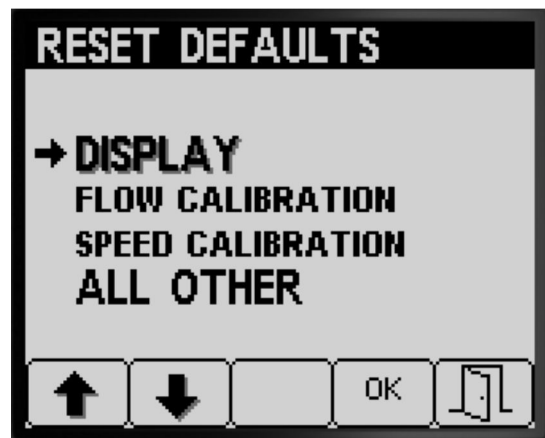

Figure 35
4. Press button 4 to reset the settings for the selected option (Figure 35).
5. Repeat steps 3 and 4 for other options that you want to reset (Figure 35).
6. Press button 5 to save your settings and exit the RESET DEFAULTS screen, and return to the SETTINGS screen (Figure 35).